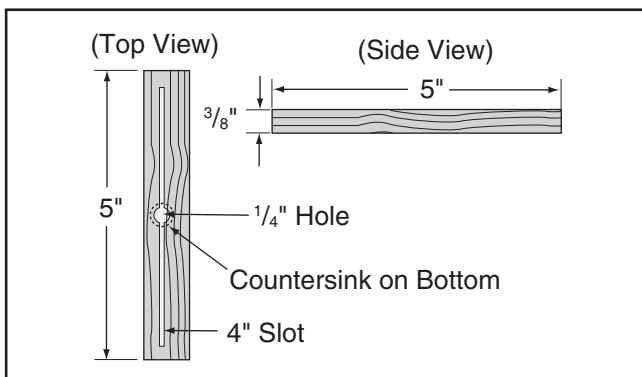

Figure 81. Miter bar pattern.
- Cut a miter bar that will fit in the table miter slot approximately 5" long, as shown in **Figure 81**.